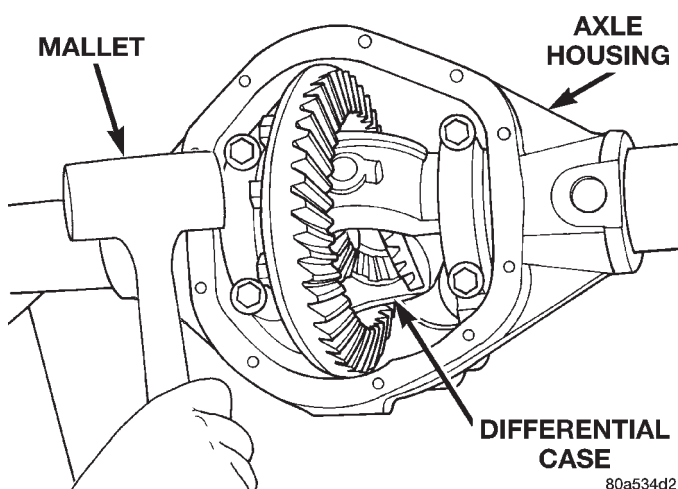
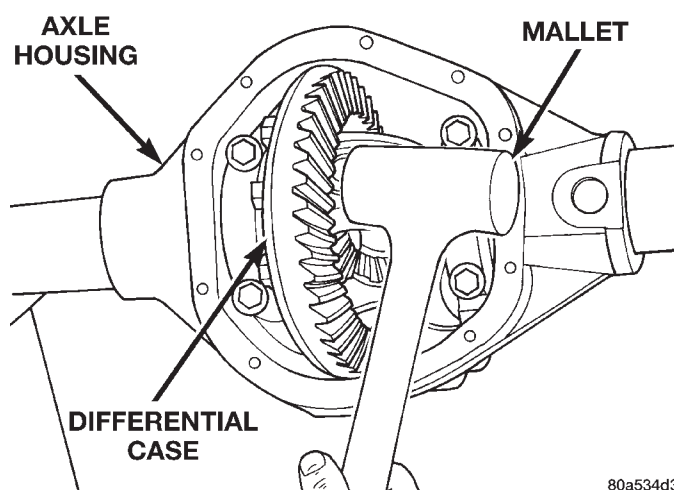

Fig. 54 Seat Pinion Gear Side Differential Dummy Side Bearing
Fig. 55 Seat Ring Gear Side Differential Dummy Side Bearing
(7) Using a dead-blow type mallet, seat the differential dummy bearings to each side of the axle housing (Fig. 54) and (Fig. 55).
(15) Rotate dial indicator out of the way on the guide stud.
(16) Remove differential case and dummy bearings from axle housing.
(17) Install the pinion gear in axle housing. Install the pinion yoke, or flange, and establish the correct pinion rotating torque.
(18) Install differential case and dummy bearings D-346 in axle housing (without shims), install bearing caps and tighten bolts snug.
(19) Seat ring gear side dummy bearing (Fig. 54).